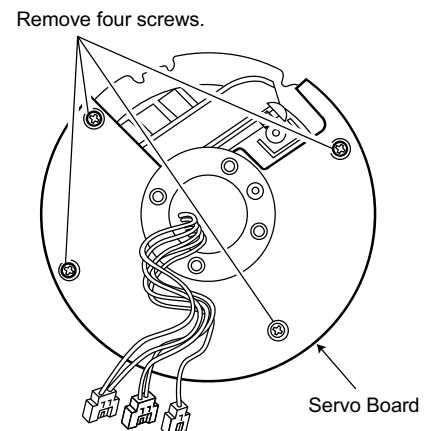

Fig. 2-8
- Referring to Fig. 2-8, remove three screws that secure the Servo Main Board and remove the Servo Board.